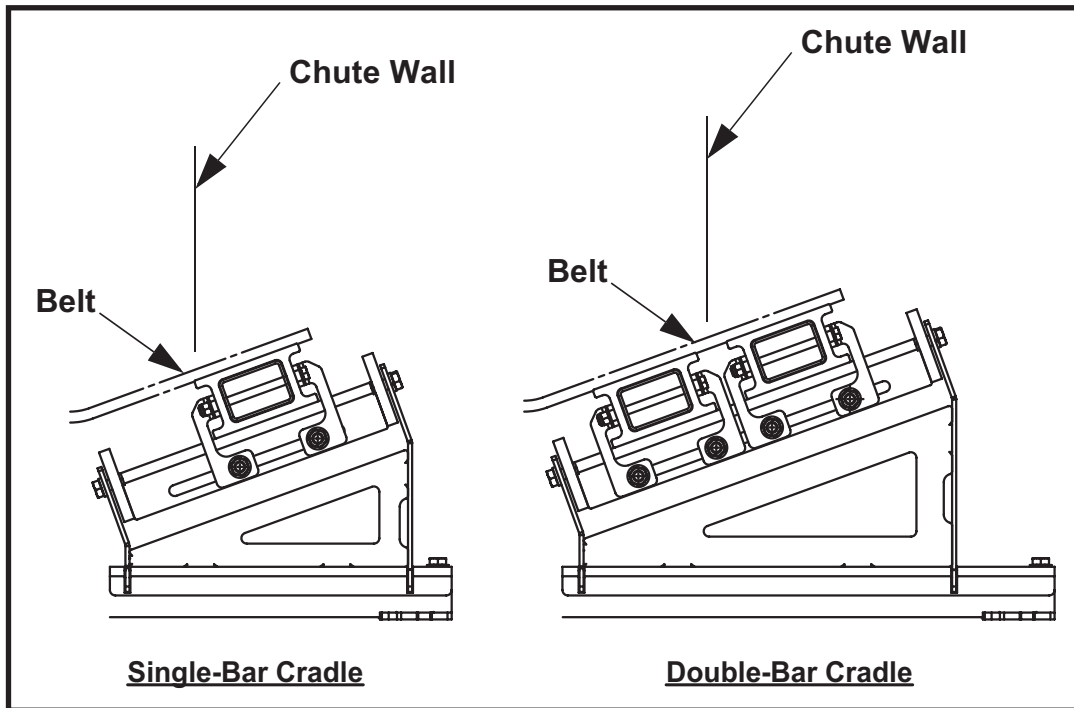

Figure 2. Location of Slider Bar to Chute Wall
8. (Refer to Figure 2). Position the slider bars so that they are supporting the conveyor belt beneath the chute wall and skirting, if any.